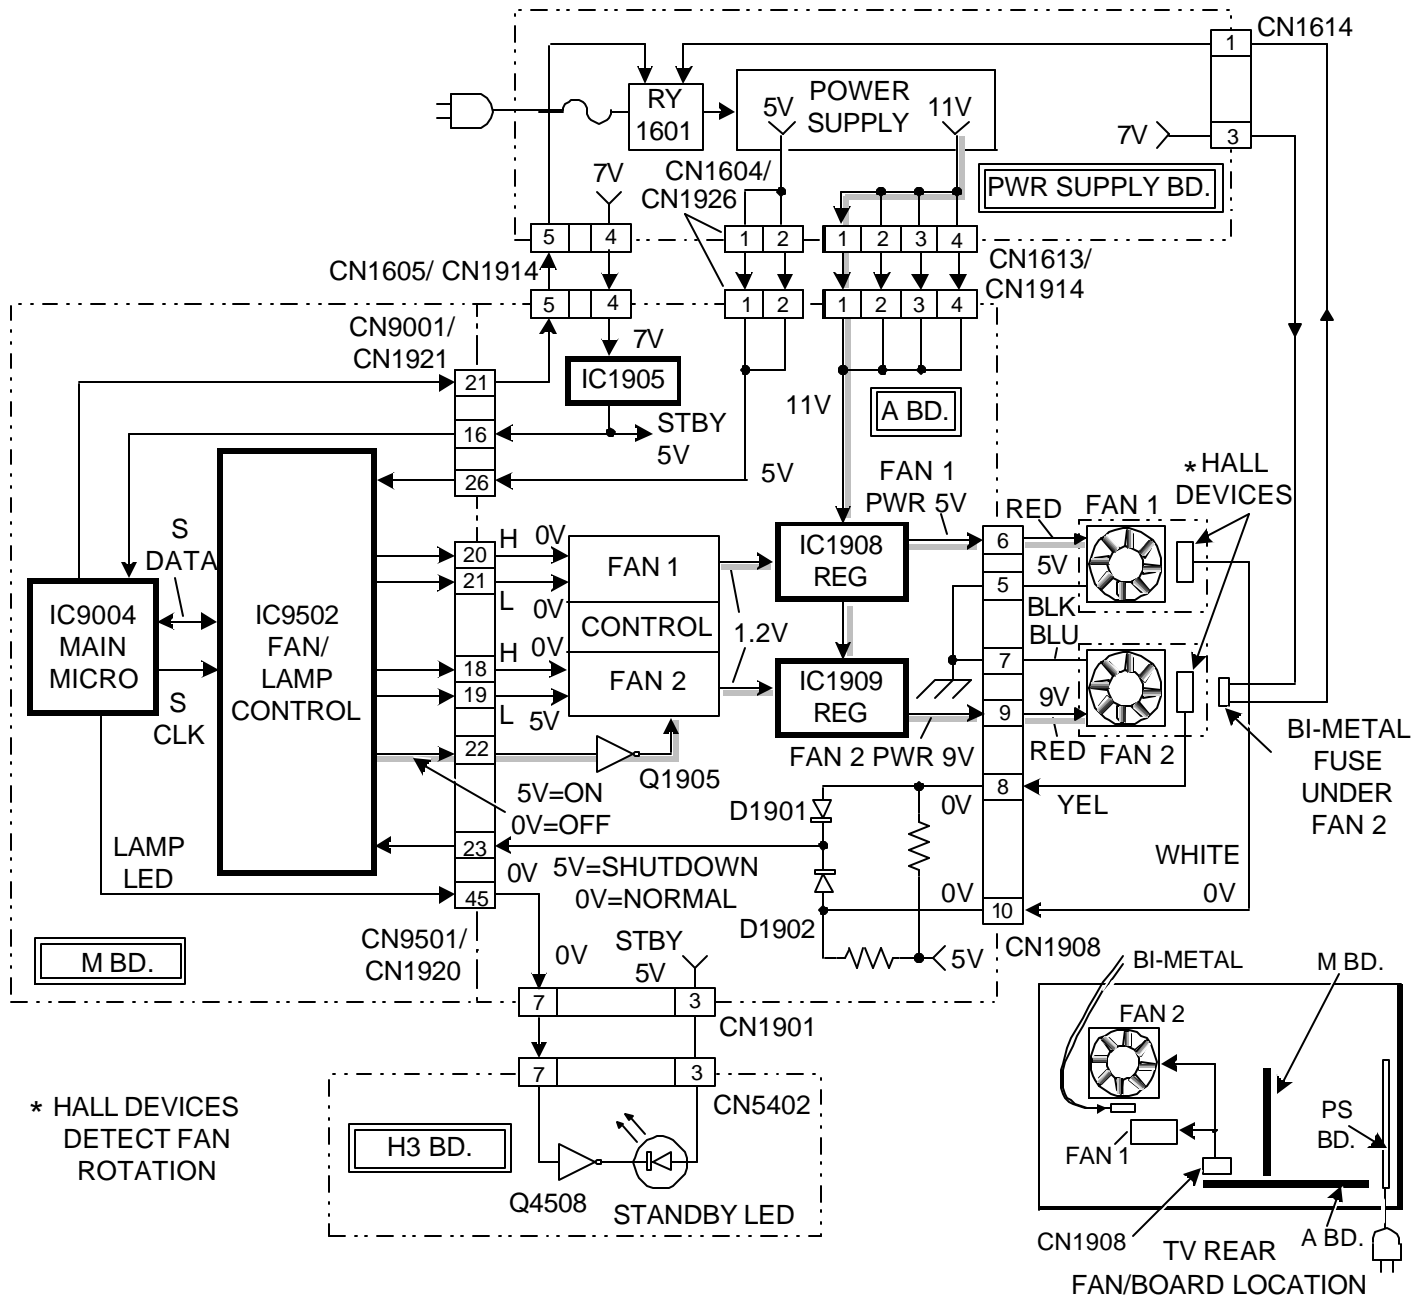

FIGURE 26-2 - FAN CONTROL - KF-60DX100 7TVP13 1442 4/16/02
2. At the A board or the fan connector (see the fan wire colors in Figure 26-2), measure the fan's drive voltage at CN1908/pin 6 and 9 (5Vdc and 9Vdc respectively) at power ON. If both voltages are present, the fans should be rotating. Replace the fan if there is voltage but no rotation.
3. With the fan rotating, there should be 0Vdc at CN1908/pin 8 and 10. If either is 5Vdc, replace the corresponding fan (see Figure 26-2). At this time, fan 1 is part of the light box (optical assembly) and not available separately.